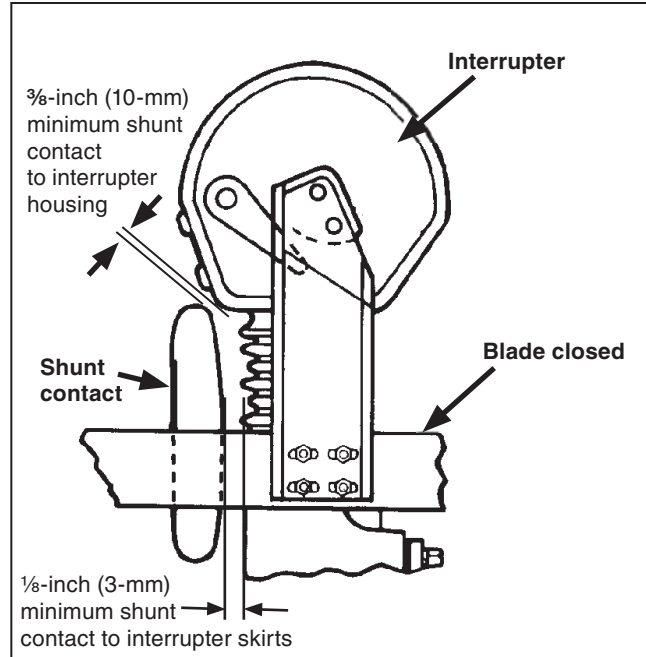

Figure 33. The blade assembly in the fully Closed position.
- (f) With the switch in the fully **Closed** position, verify the minimum clearances between the blade shunt contact and the interrupter, measured to the interrupter housing as well as the interrupter skirts. See Figure 33.